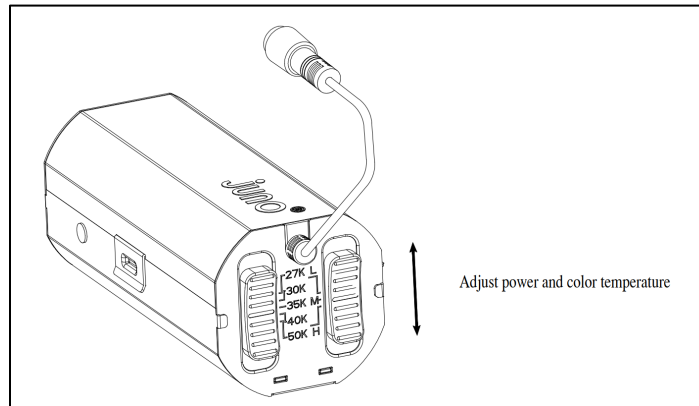

Figure 4
- Use switch on the driver box (Lumen/CCT options need to be selected before fixture installation) to select appropriate lumen output (High-Medium-Low option, with High as factory default) and light color (27K-30K-35K-40K-50K option, with 30K as factory default). (Figure 4)